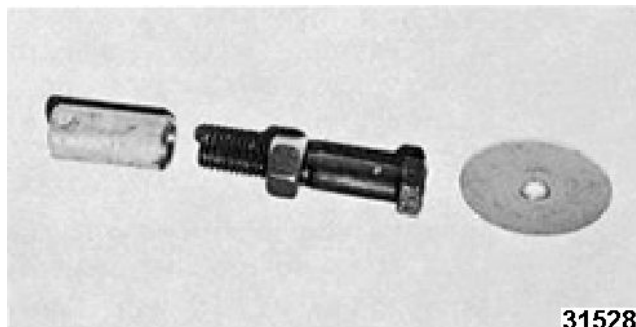

Fig. 33
- G. Position jack screw (Fig. 33) with metal plate against the gear case wall.
- L. Use the jack screw (Fig. 33) and metal blocks to press the bearing assembly out of the bearing bracket.